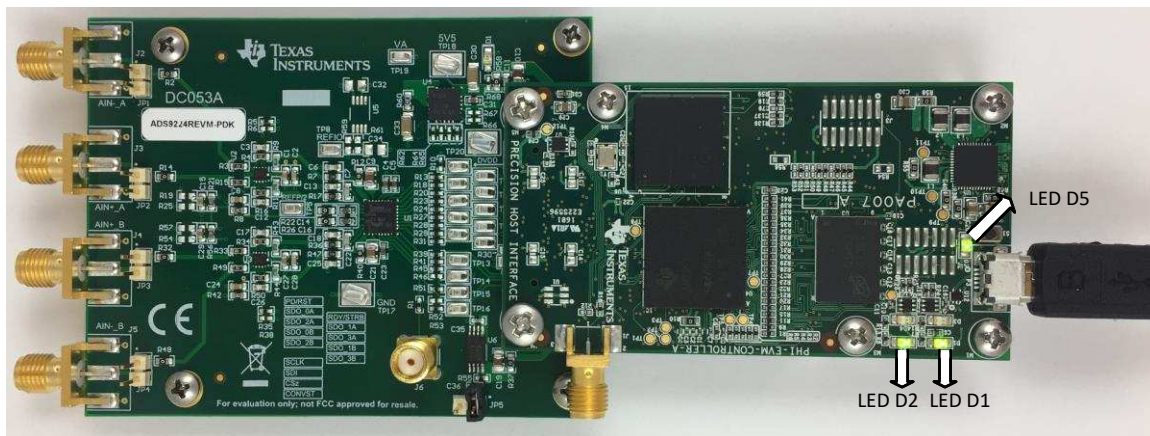

Figure 8. EVM-PDK Hardware Setup and LED Indicators
1. Connect the ADS9224REVM to the PHI, and install the two screws, as indicated in Figure 8.